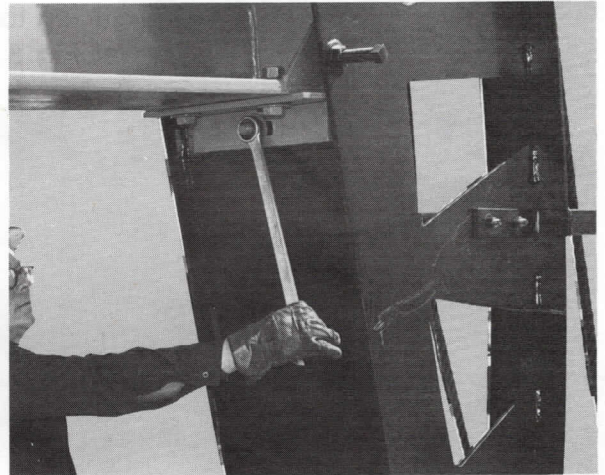

Fig. 13
19. Loosen side adjusting screws until their ends are flush with inside of horsehead. Hoist walking beam enough to install latch bolt, striker plate and plate bolts. Do not tighten bolts until horsehead has been aligned. See Fig. 13.